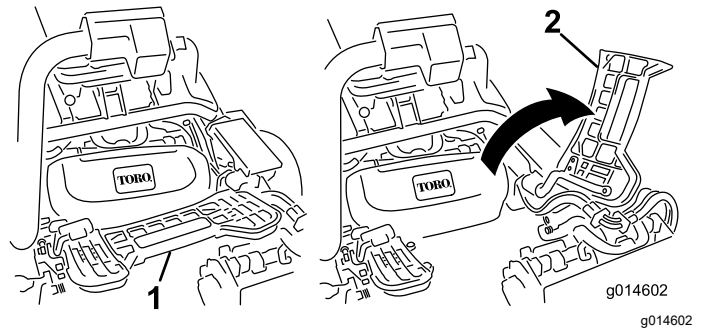

Figure 53
1. Lift up on the footrest and swing it open, allowing access to the center cutting unit position (Figure 53).